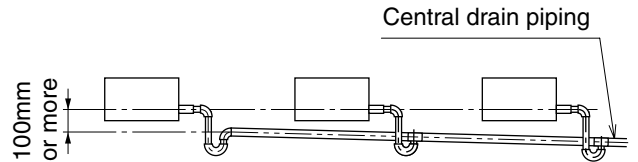
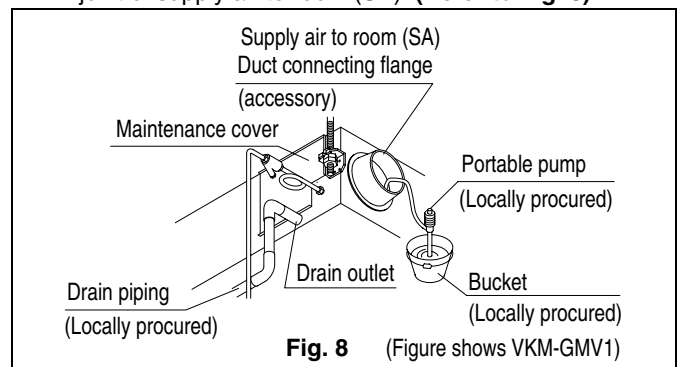

Fig. 7-2 (Install with a downward slope of at least 1/100)
Fig. 8 (Figure shows VKM-GMV1)
- Keep the drain pipe short and sloping downwards at a gradient of at least 1/100 to prevent air pockets from forming. (Refer to Fig. 7-2)
- If you are using central drain piping, follow the procedure outlined in the figure 7-2.
**(2) After piping work is finished, check drainage flows smoothly.**
- Test the drainage by pouring around 1000cc of water into the drain pan through the inspection hole by removing the maintenance cover (10 screws) or through the outlet duct joint of supply air to room (SA). (Refer to Fig. 8)